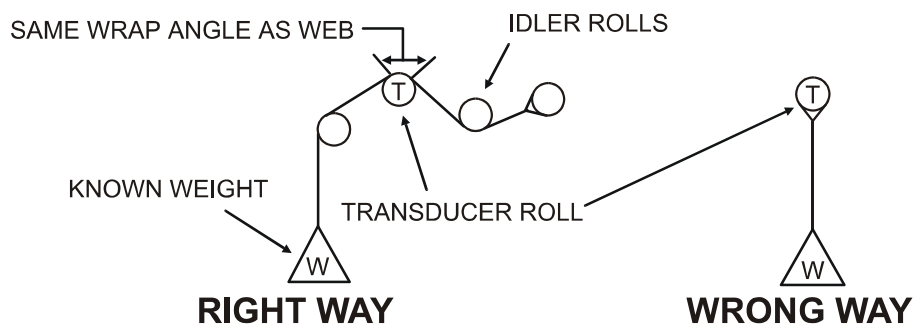

Figure 8 - WEB PATH
2. **CALIBRATION:** Fasten one end of the rope in the machine and thread the other end around the transducer roll in exactly the same path the web will take. Be sure the rope does not pass around any driven rolls, drag bars, or anything else that can affect tension. Ideally the rope should hit an idler roll immediately before and after the tension sensing roll. It does not have to pass over any other rollers once these three are strung. Refer to Figure 8.
1. Attach the weight to the free end of the rope as shown in Figure 8. The weight should not touch anything. Wait for the weight to stop swinging. Ideally, the rope will pass over the center of the transducer roll.